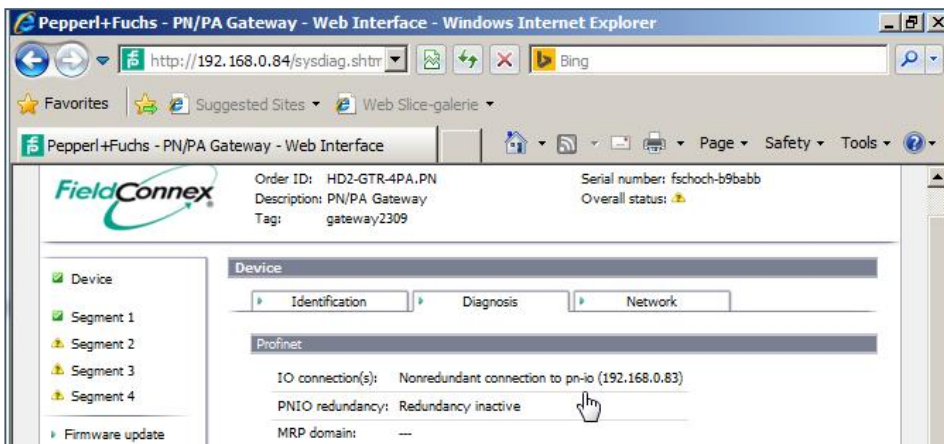

Figure 42: Diagnosis of PROFINET
- 6) The PROFINET name will be shown as **Tag**. Select **Device > Diagnosis** to diagnose the connection with the PN IO (see: Figure 42: Diagnosis of PROFINET).